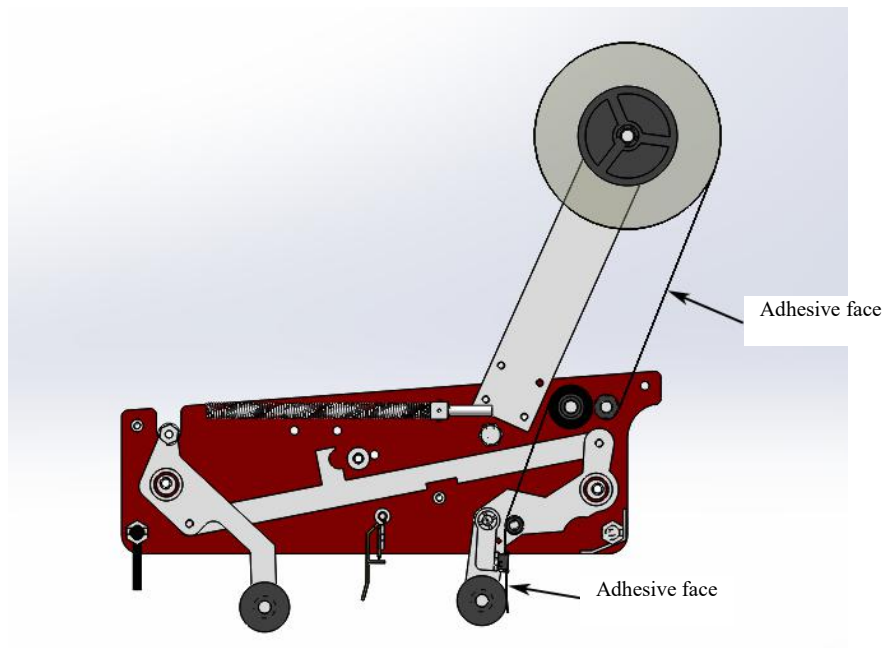

Figure 9
3.7 Tape threading diagram, as shown in Figure 9:	- 11 -
3.7 Tape threading diagram, as shown in Figure 9: